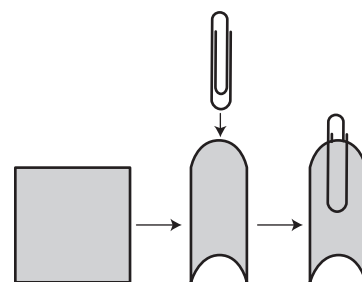

Figure 1.
- Bend the zinc into a half circle and slide a small paper clip down the center (see Figure 1).